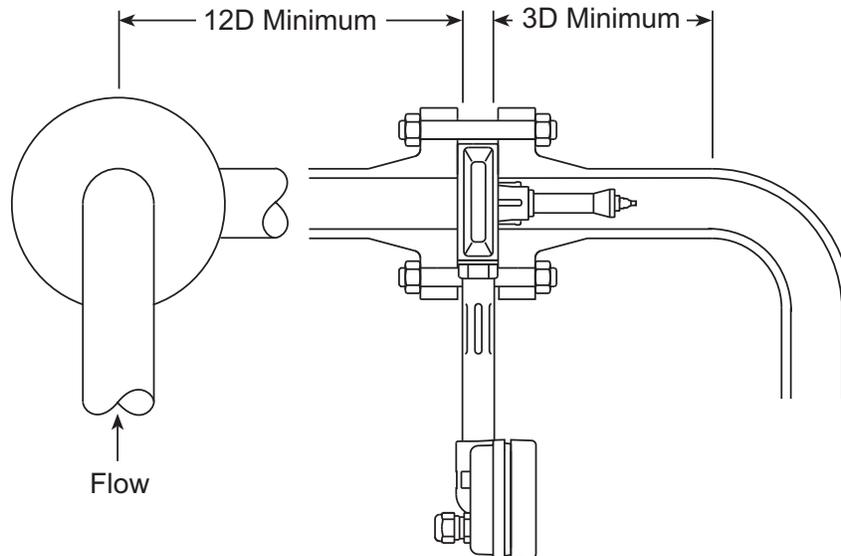

**Fig. 11** Flow
**Note:** See Figures 11 to 14 for other considerations which need to be noted before determining the correct installation location.
The TVA flowmeter normally only requires a minimum of 6 pipe diameters upstream and 3 downstream of clear straight pipe. These dimensions assume a measurement from a single 90° bend (see Figure 11).